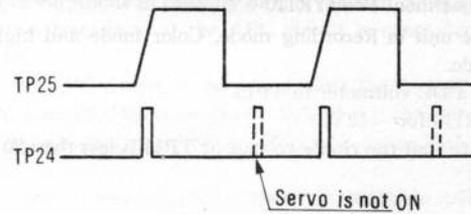

Fig. 5
3. Make sure that waveforms of TP24 and TP25 become as shown in Fig. 5.